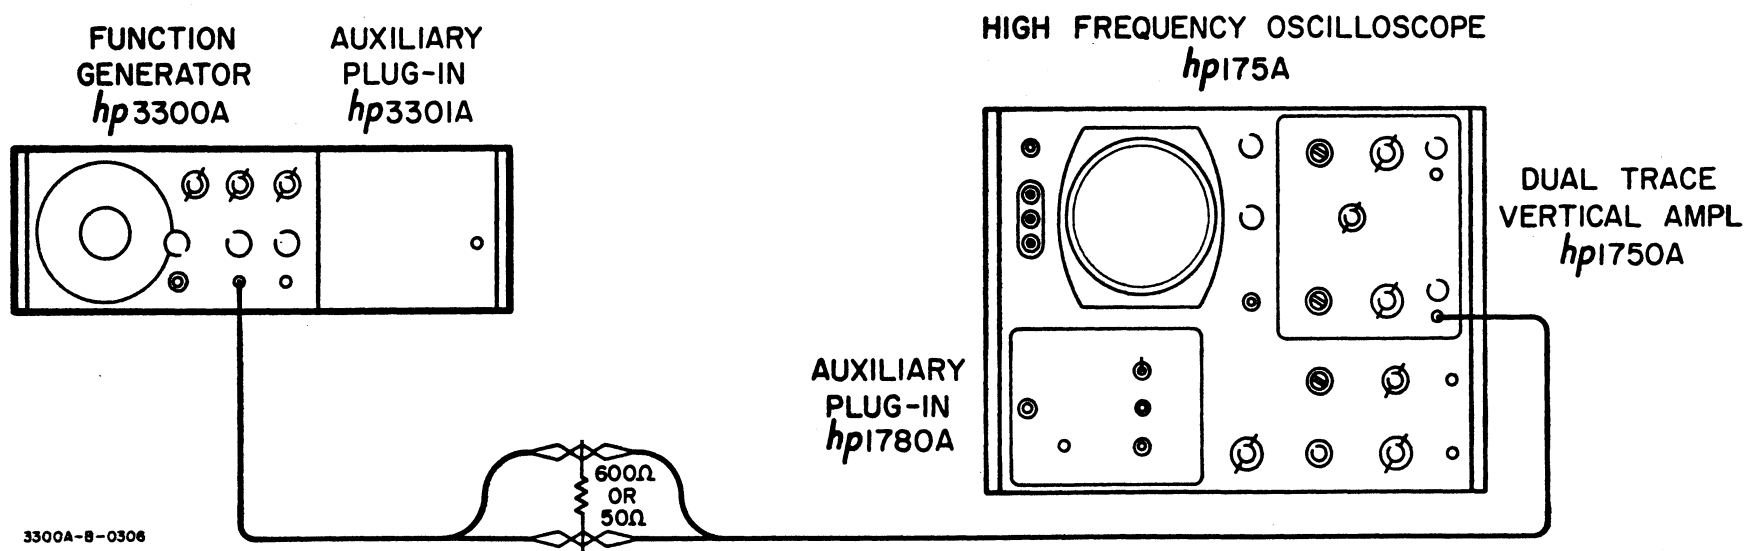

Figure 5-1. 600 ohm or 50 ohm Load Output Test Setup
- b. Load the OUTPUT of CHANNEL A with the 600 ohm resistor and connect the output to the oscilloscope as shown in Figure 5-1. Set the 3300A controls as follows: